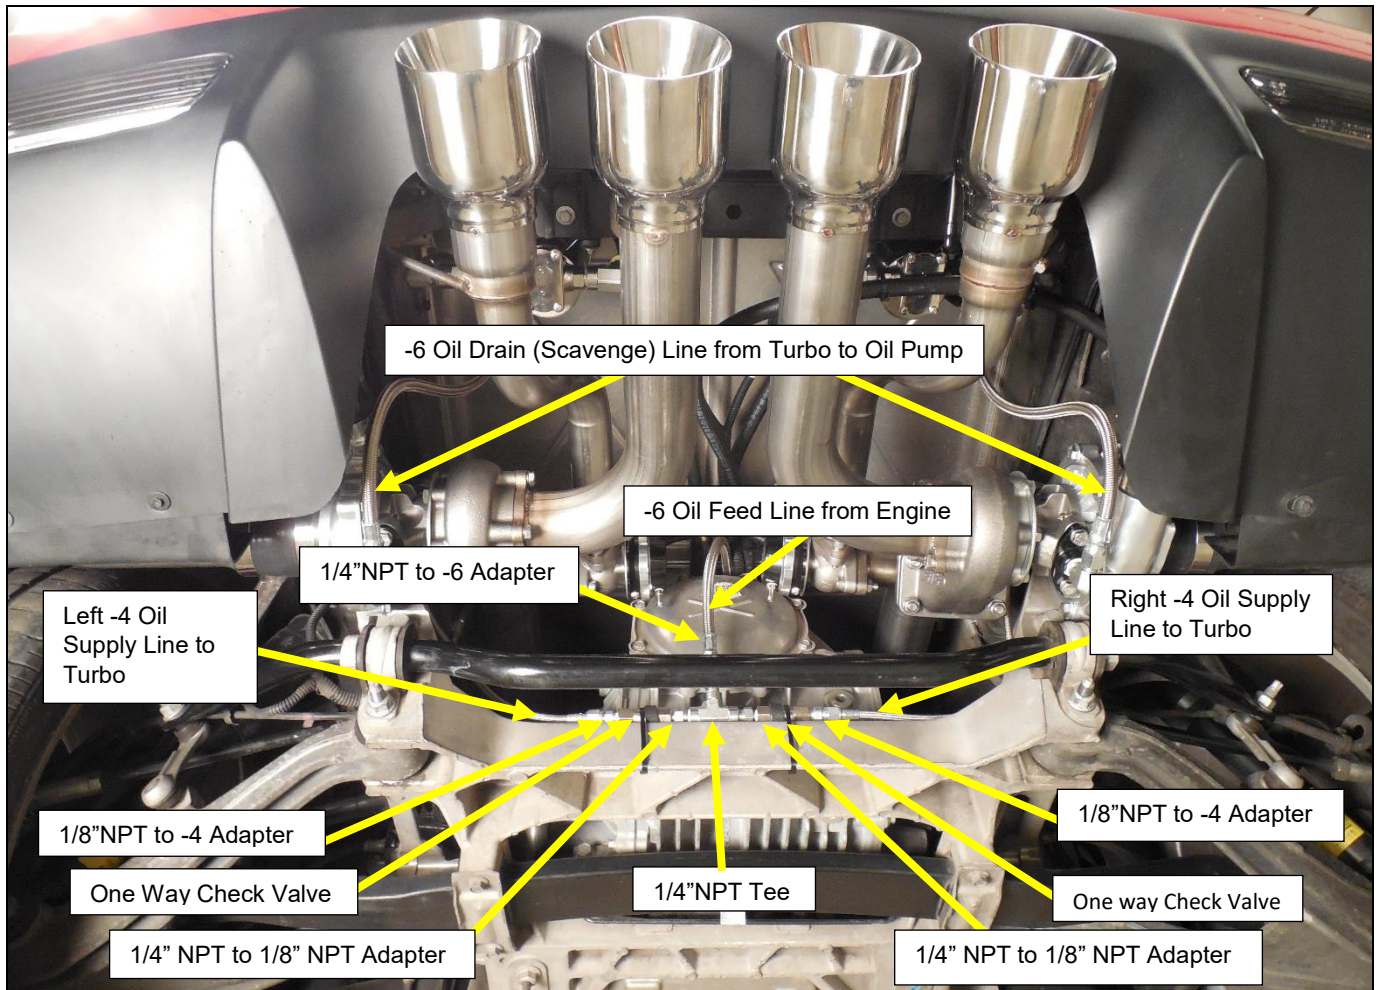

Figure 50
### Assembling the Oil Feed Tee and Flow Check Valves – Figure 50 (next page)
3. Install a One Way Flow Check Valve at each 1/8" NPT male fitting previously installed on each side port of the tee fitting. **Fig.50 (See illustration next page)**
1. Install the short braided -6 line from the oil pump inlet fitting (this is the fitting on the outboard side of the oil Pump that has the 3 psi switch installed) to the -6 fitting on the bottom of the Turbo. See **Figure 41 (previously) and Figure 50 (below)**.